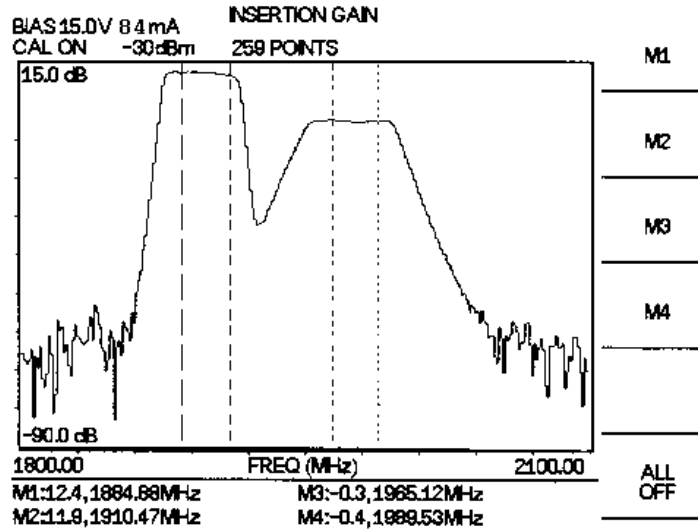

Figure 4-22. Measurement Display of Amplifier Gain
Step 23. Press the **BOTTOM** soft key and enter 9, 0 – using the keypad or Up/Down arrow key. Press **ENTER** to set the bottom scale to –90. Observe the display of amplifier gain performance (Figure 4-22).